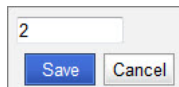

FIG. 36 Device Integration ID window
1. Click on the ID of the device to be modified to open the *Device Integration ID* window (FIG. 36).